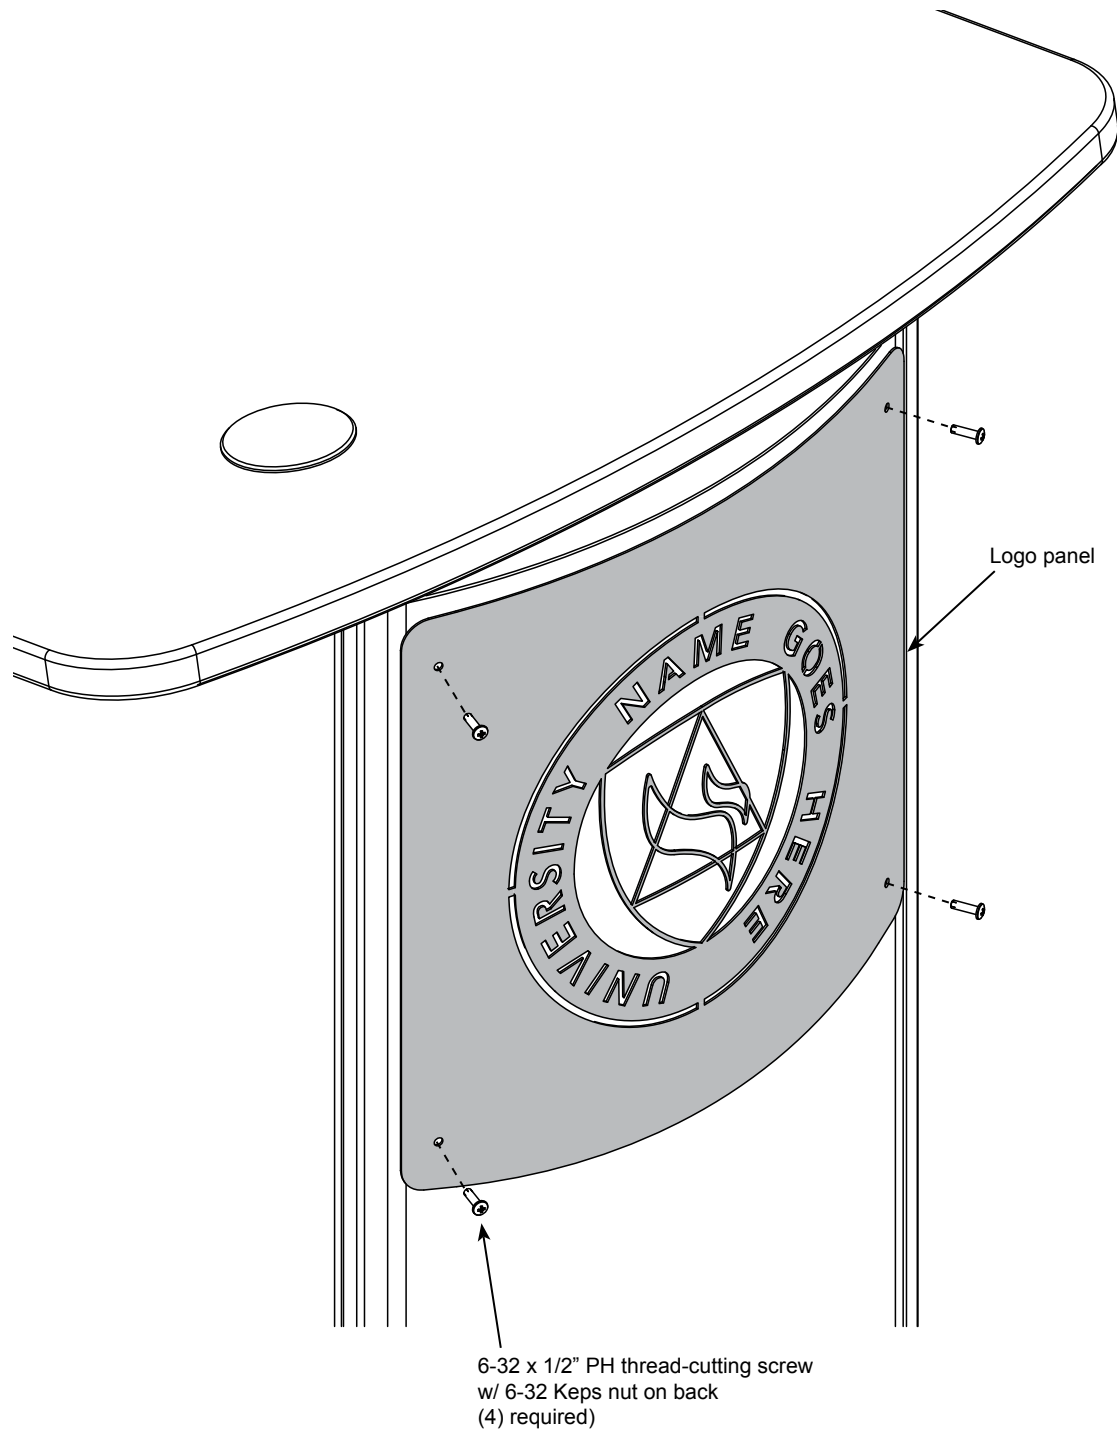

Figure 2
2. Secure the logo panel to the lectern with (4) 6-32 x 1/2" PH thread-cutting screws and (4) 6-32 keps nuts on back. **Figure 2.**